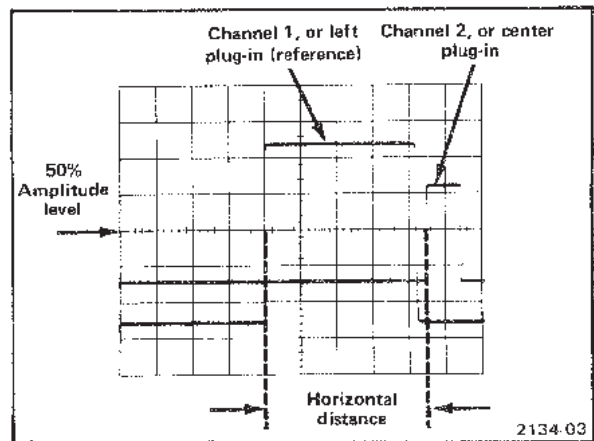

Fig. 1-7. Measuring time difference between two pulses.
10. Measure the horizontal distance between the two measurement points (see Fig. 1-7).